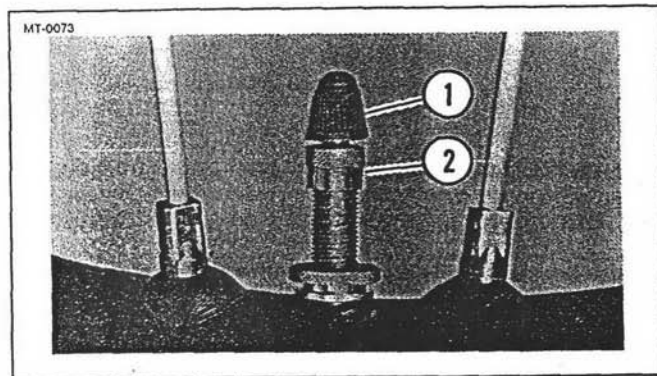

Figure 5-48. Valve Stem Cap Protective Cover
2. See Figure 5-48. Remove protective cover (1) and valve stem cap (2).